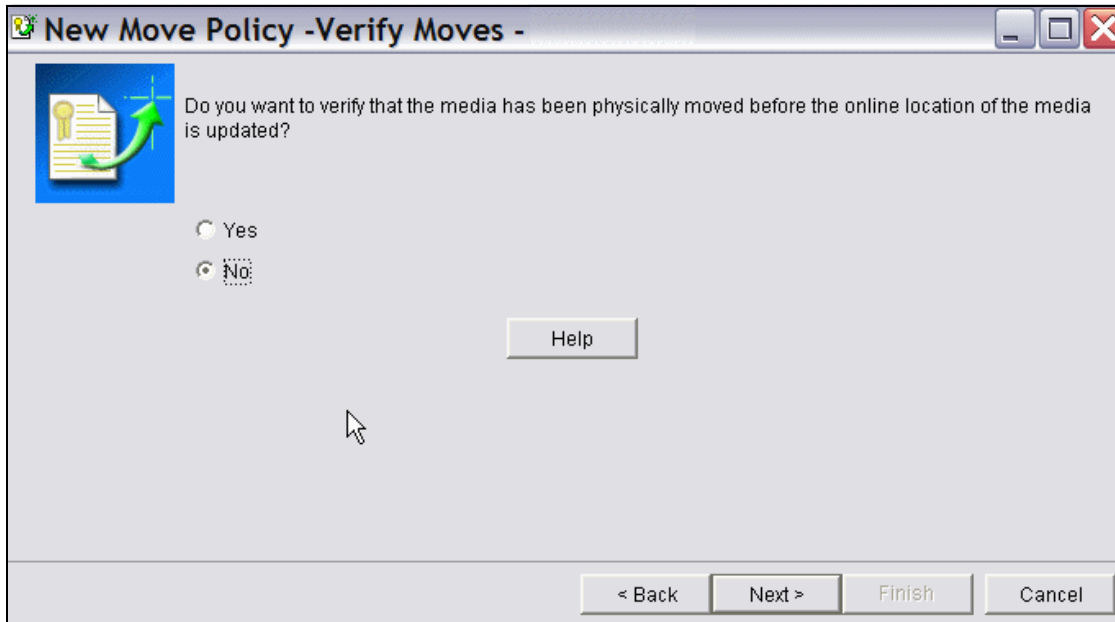

Figure 5-48 BRMS virtual move policy, verify moves
6. If you want to verify movement, you can do so in the New Move Policy - Verify Moves window shown in Figure 5-48 on page 236.